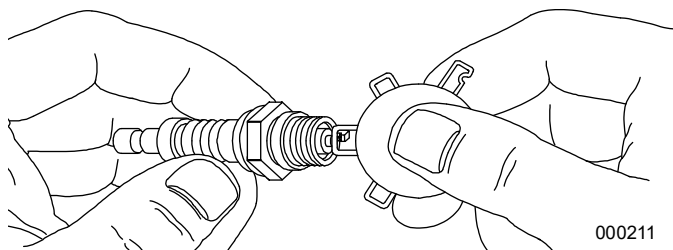

Figure 3-65. Checking Spark Plug Gap
3. See Figure 3-65. Use a wire feeler gauge to set the gap on new or existing spark plugs as per Table 3-12.